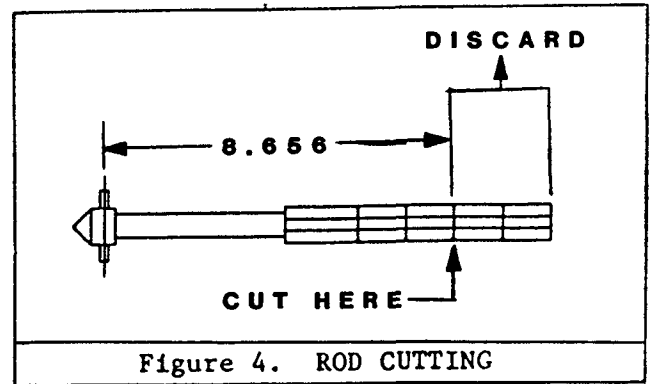

Figure 4. ROD CUTTING
5. Cut off and discard a portion of the threaded end of operating rod as shown in Figure 4.